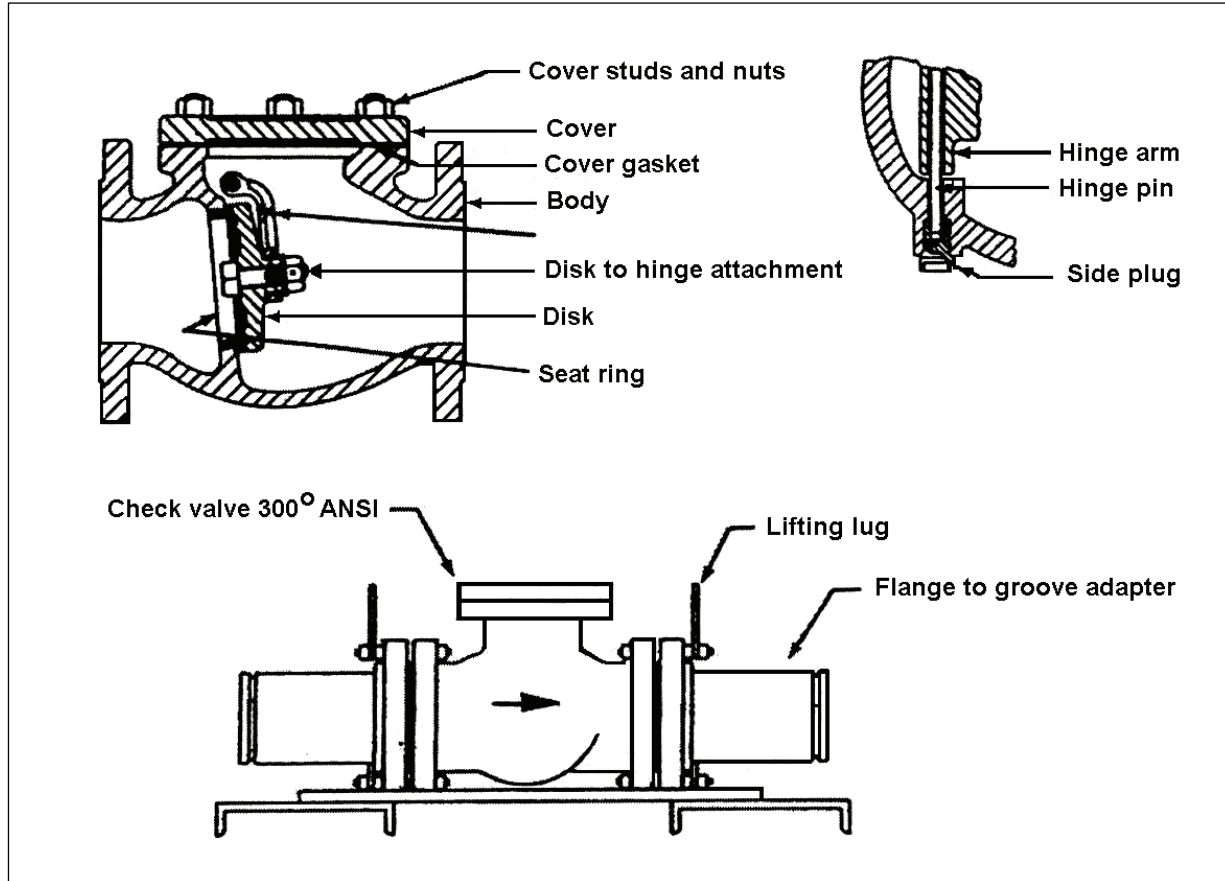

Figure 3
- d. Check valves by tightening cover nuts regularly (Figure 3).